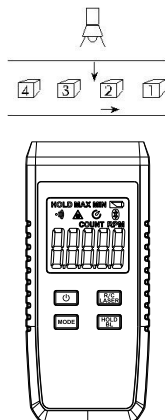

Figure 5
- 2) Fix the optical source to the location at the other side of objects and opposite to the meter. (figure 5)